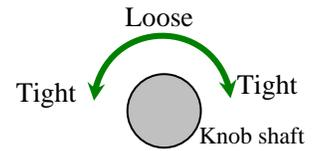

Fig.4
- 2) You can tighten the tension in either direction as shown in fig.4. i.e. turning in one direction will tighten the tension;